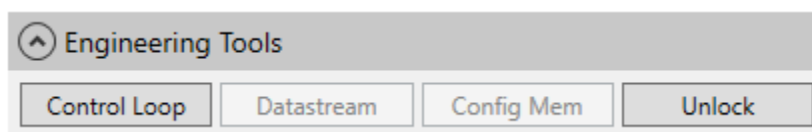

Figure 2-99: Engineering Tools Selections
2. In the **Engineering Tools** section, select **Control Loop** (see Figure 2-99). See Engineering Tools on page 187 for detailed descriptions of all items.